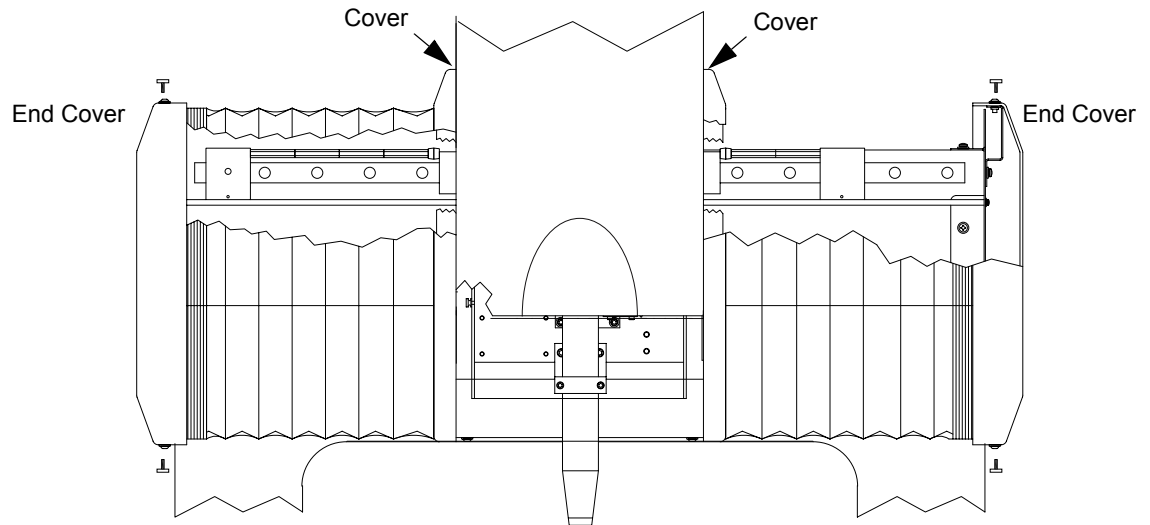

Figure 6-13 Attaching the X-Axis Bellows
1. Push the bellows in place; see Figure 6-13.
2. Tighten the five button-head screws (three in front and two on the top) that hold the bellows Cover in place; see Figure 6-13.